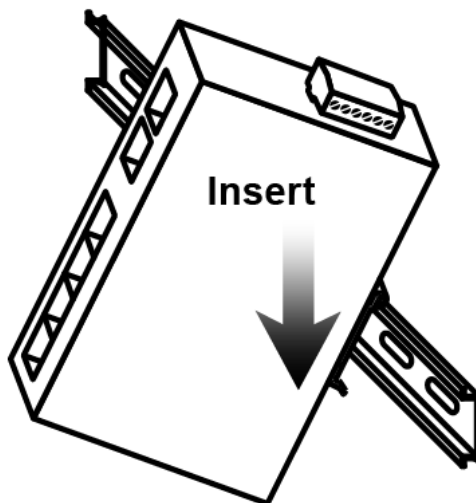

Figure 3.2: Insert the Media Converter on the DIN-Rail
- Step 3. After the DIN-Rail bracket is installed on the rear side of the Media Converter, insert the top of the DIN-Rail on to the track as shown below in Figure 3.2.